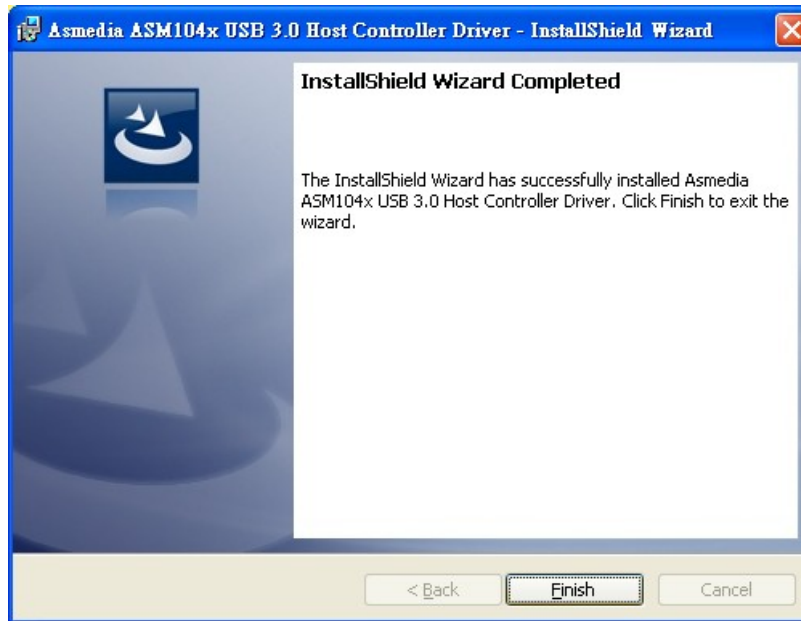

Figure 6-26: USB 3.0 Driver Update Complete
Step 9: When the installation is complete, click **FINISH** to exit setup. (Figure 6-26).